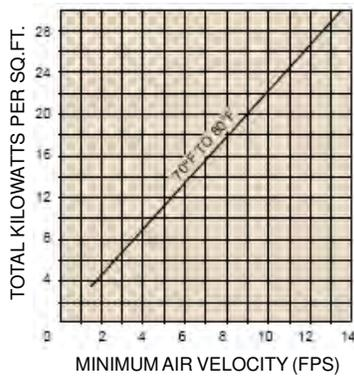

Figure 5 - Air Velocity Requirements
3.1 Finned tubular duct heaters are approved for horizontal duct installation where the maximum inlet air temperature does not exceed 77°F (25°C) and the maximum rating does not exceed 120kW. Multiple heaters can be installed in tandem (series) provided that the inlet temperature to any heater section (one heater) is not more than 77°F (25°C) and the air velocity is not less than the requirements of Figure 5 (see over).